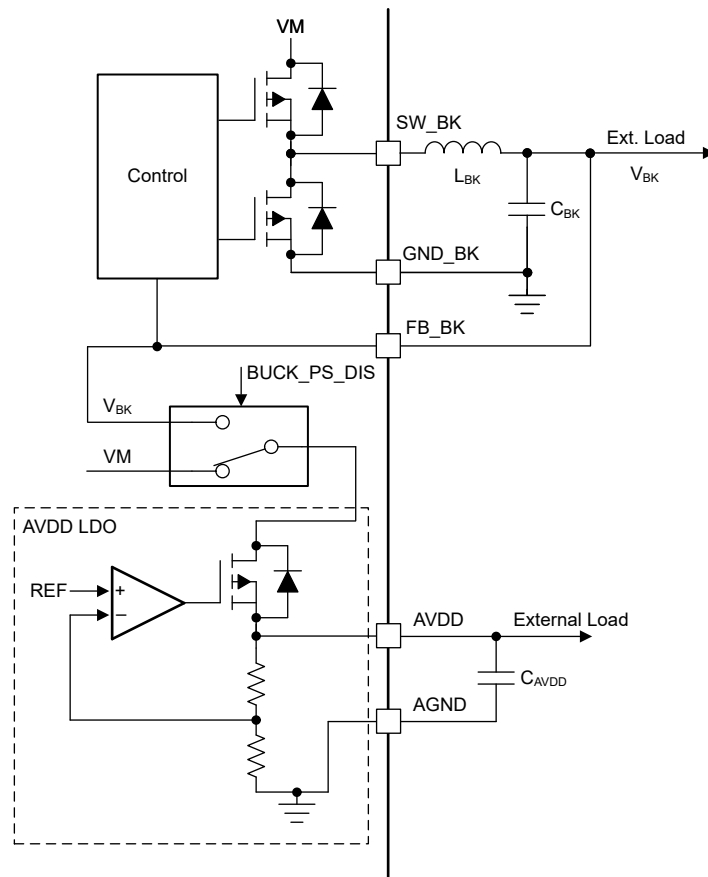

Figure 6-6. AVDD Power Sequencing from Mixed Mode Buck Regulator
The AVDD LDO has an option of using the power supply from mixed mode buck regulator to reduce the device power dissipation. The power sequencing mode allows on-the-fly changeover of AVDD LDO input from DC mains (VM) to buck output (V_{BK}) as shown in Figure 6-6. This sequencing can be configured through the BUCK_PS_DIS bit. Power sequencing is supported only when buck output voltage is set to 5-V or 5.7-V.